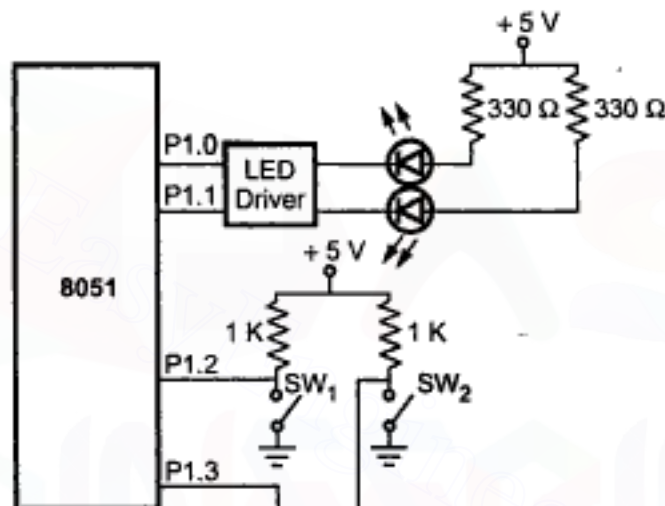

Fig. 13.54
**Solution :** Fig. 13.54 shows the interfacing diagram. P1.0 and P1.1 are used to connect LEDs while P1.2 and P1.3 are used to connect switches. The status of the switches are sensed by BIT TEST instruction and LEDs are driven by BIT SET instructions.